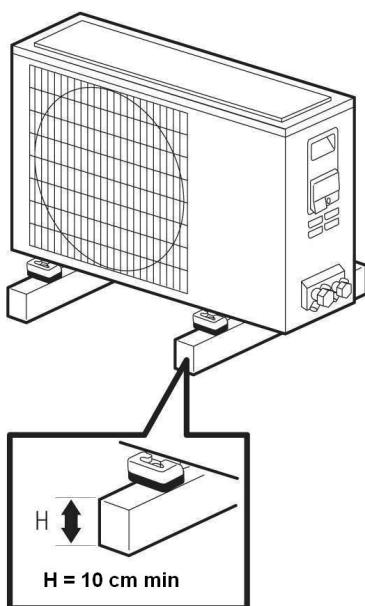

Fig. 16
- Assemble the rubber feet under the outdoor unit and place the unit on a rise that is at least 10 cm (fig.16).